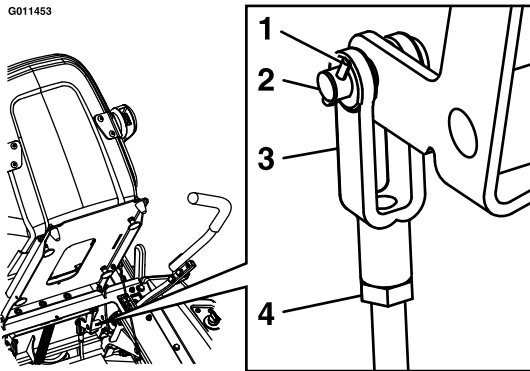

Figure 46
6. If adjustment is necessary, loosen the jam nut from the yoke on the side that needs adjustment. Remove the hairpin and clevis pin (see Figure 46).